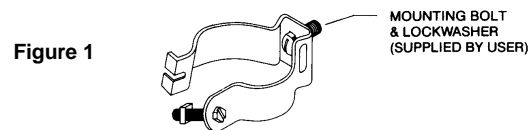

Figure 1
1. If installing the hangers with 3/8" hardware, insert a mounting bolt with lockwasher (supplied by user) through the hanger mounting hole. See Figure 1.